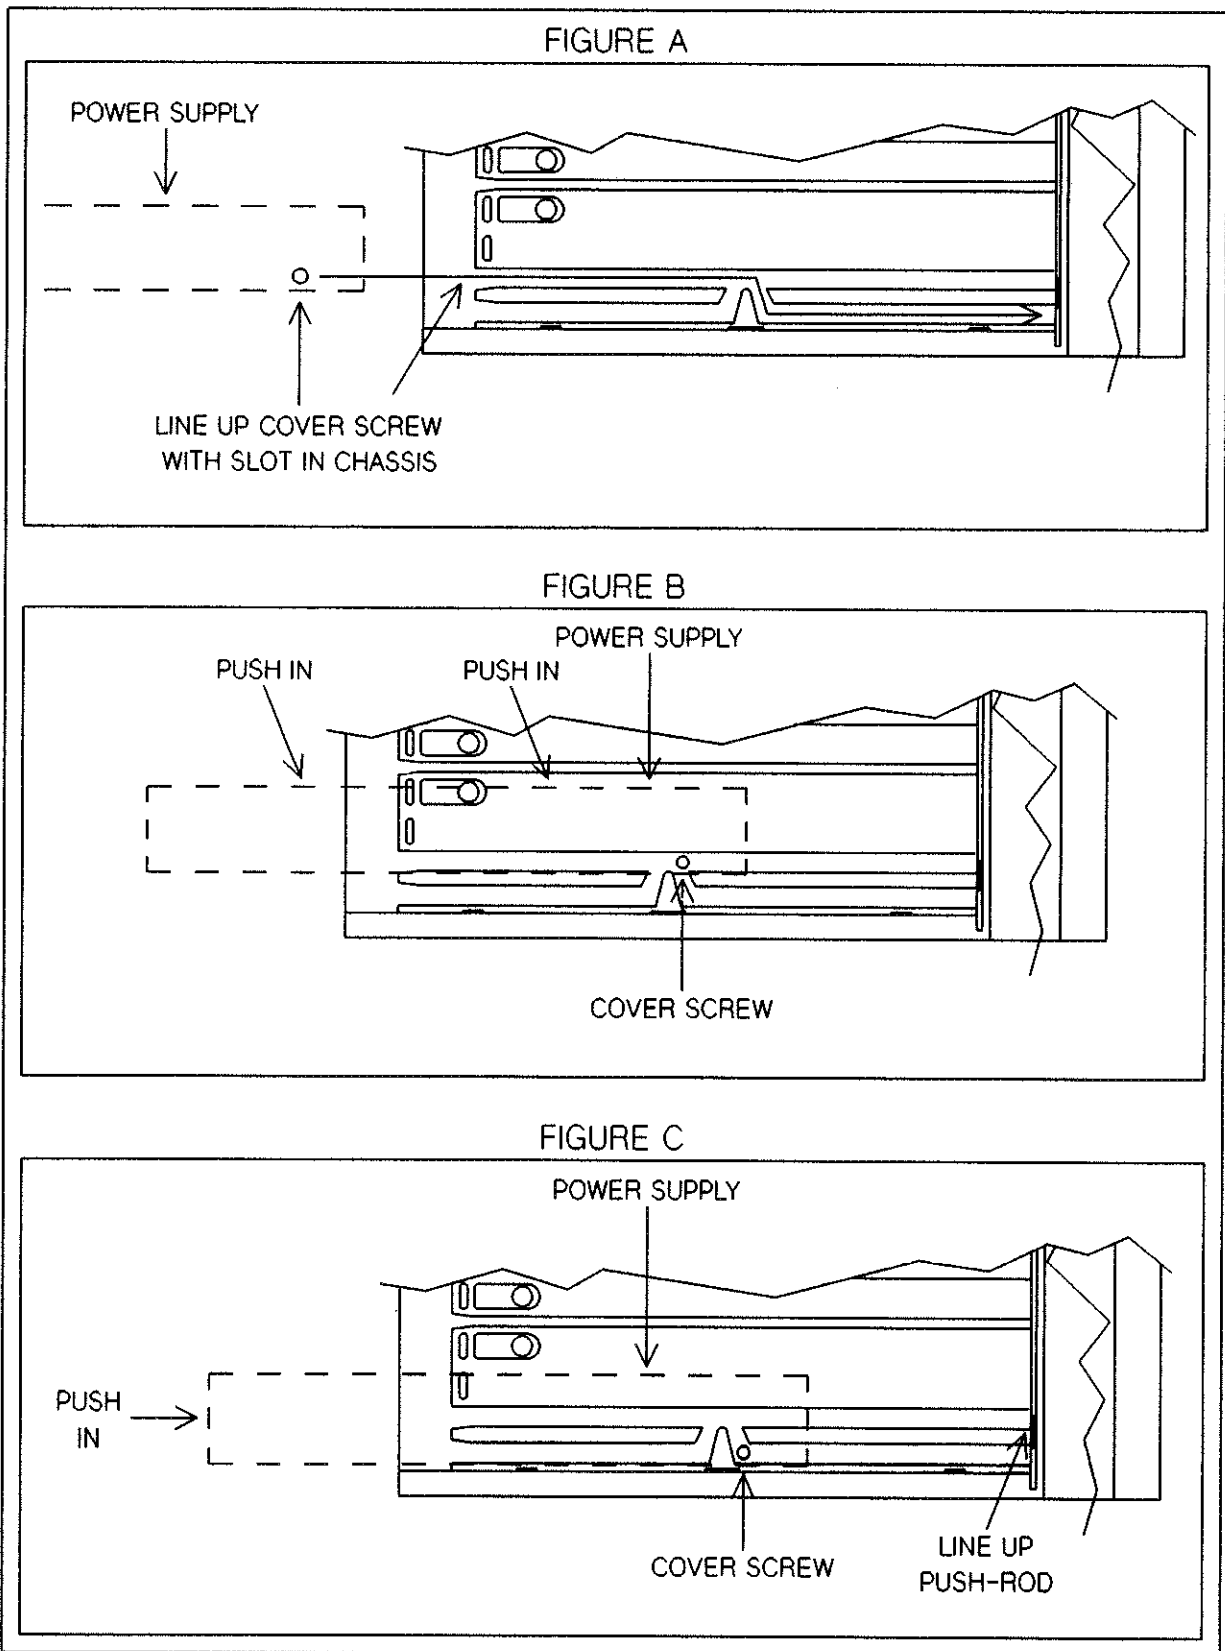

Figure 4-4 Power Supply Installation
6. Refer to Figure 4-4-A (Figure A in Figure 4-4) to determine how the power supply module is to be installed. The figure shows the path of the power supply module's front cover screw located at the bottom of the module. Carefully study the path before installing the module. The dashed lines in the figure represents the module.
*All figures in Figure 4-4 show a partial inside right view (with rear of instrument facing forward) of the chassis. The dashed lines in all figures represents the power supply module.*
7. Figure 4-4-A shows the direction at which the power supply module is to be pushed in first. Align the power supply module's cover screw with the slot next to slot 7, as shown in Figure 4-4-A. Carefully push the module into the chassis until the key cap on the power switch push-rod barely touches the mother board. The module should now be in the position shown in Figure 4-4-B.
*Make sure that the power supply module is pushed in gently and no further than shown in Figure 4-4-B. This prevents the push-rod and/or power switch from breaking.*
8. Figure 4-4-B shows the direction at which the module is to be pushed in next. However, before pushing on the module, locate the power supply grounding spring under the top part of the chassis. Depress the spring and then push the power supply module to the right until it stops. Make sure the spring is depressed before moving the power supply module or damage to the spring can result. The module should now be in the position shown in Figure 4-4-C.
9. Figure 4-4-C shows the direction at which the module is to be pushed in last. However, before pushing on the module, align the power switch push-rod with the center part of the opening on the mother board, as shown in Figure 4-4-C. Then push the power supply module completely into the chassis until its connector is firmly seated in the mother board connector.